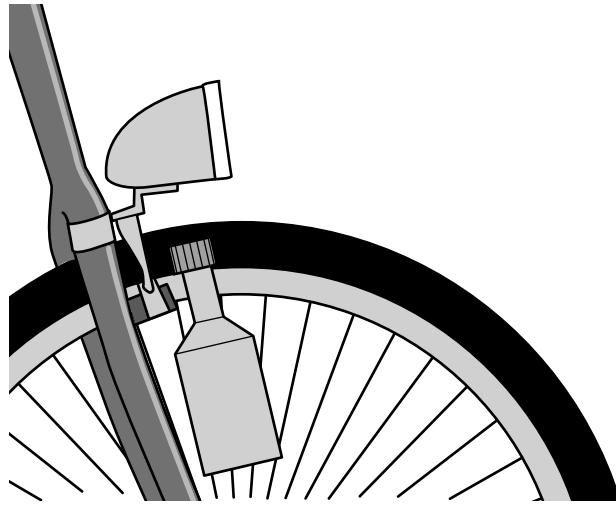

Fig. 2
- (d) Fig. 2 shows a dynamo which generates electricity for powering the lights on the bicycle when the front wheel is rotated.